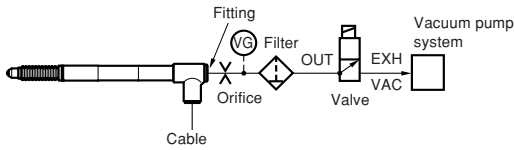

Fig.1 Air-pass System
- In operating the feeler with a vacuum pump, use such an air-pass system as shown in Fig. 1 to enable air driving. The optimum vacuum rate is 40 to 66.7 kPa. Further, put such an orifice as shown in Fig. 2 on a tube from the air lifter connector to control the air suction and discharge speed. The feeler is lifted at the air discharge to the vacuum pump.